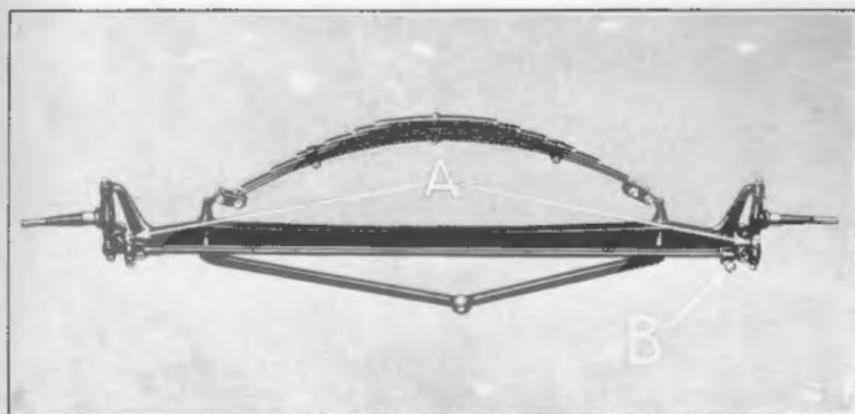

Fig. 373
- 692 Position spindle connecting rod over ends of spindle arms with the yoke ball towards right side of axle (See "B" Fig. 373), insert spindle connecting rod bolts, running them down into forked end of rod and yoke, run down nuts on ends of bolts (See "A" Fig. 373) drawing them down tightly and locking with cotter keys.